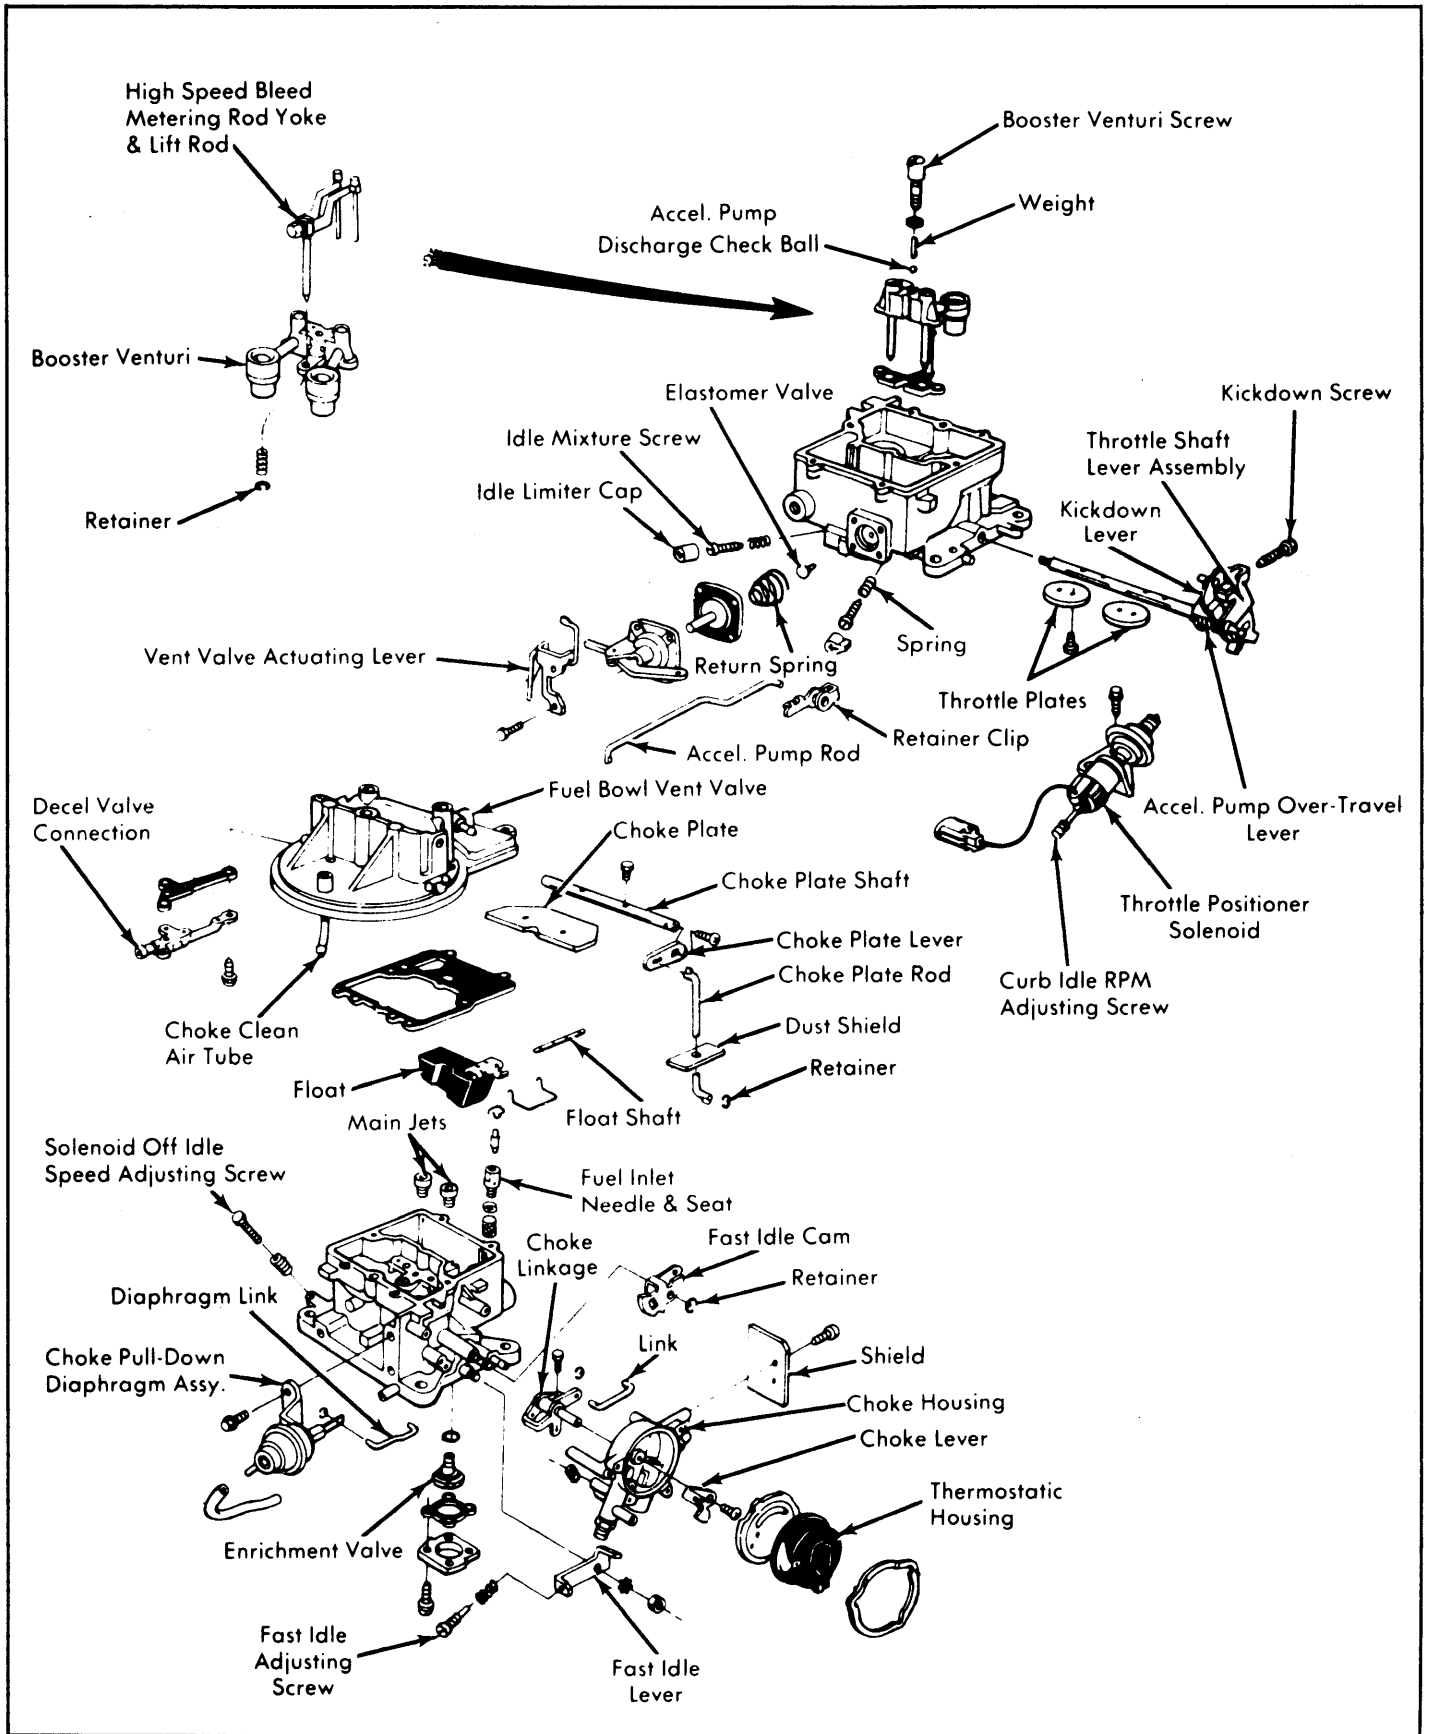

Fig. 5: Exploded View of Motorcraft 2150 2-Barrel Carburetor
- 1) To disassemble air horn, remove air cleaner anchor screw and automatic choke rod retainer. Remove air horn attaching screws and lock washers. See Fig. 5.